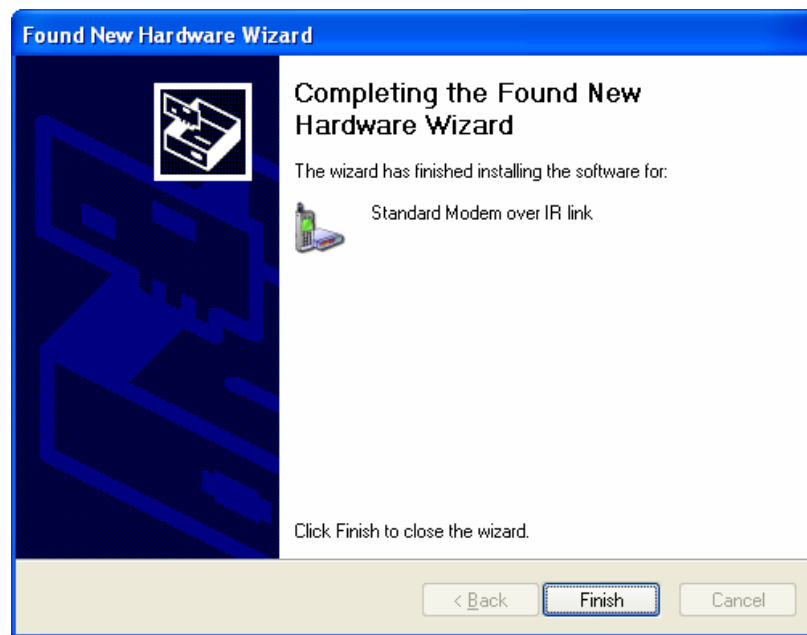

Figure 13 : 'Found New Hardware Wizard' completed
6. Once the wizard completed the installation (Figure 13), click **Finish** to close the wizard.